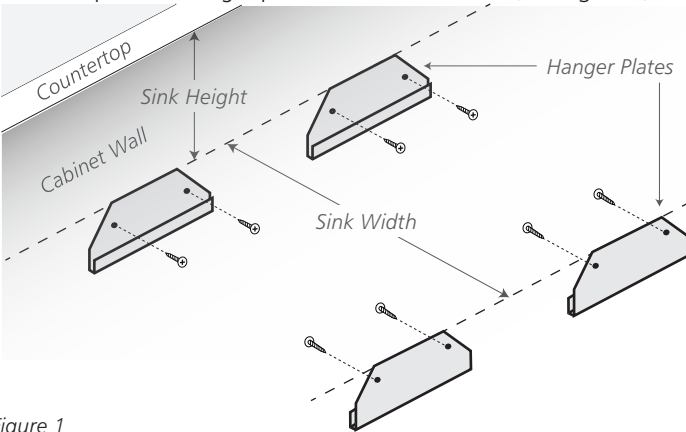

Figure 1
3. In your cabinet, measure the height of your sink down from the top edge (either on the sides of the cabinet or the front and back depending on your installation type). Mark this line with a level. Install the hanger plates using the supplied screws making the top of the hanger plate flush with the line. (See Figure 1)